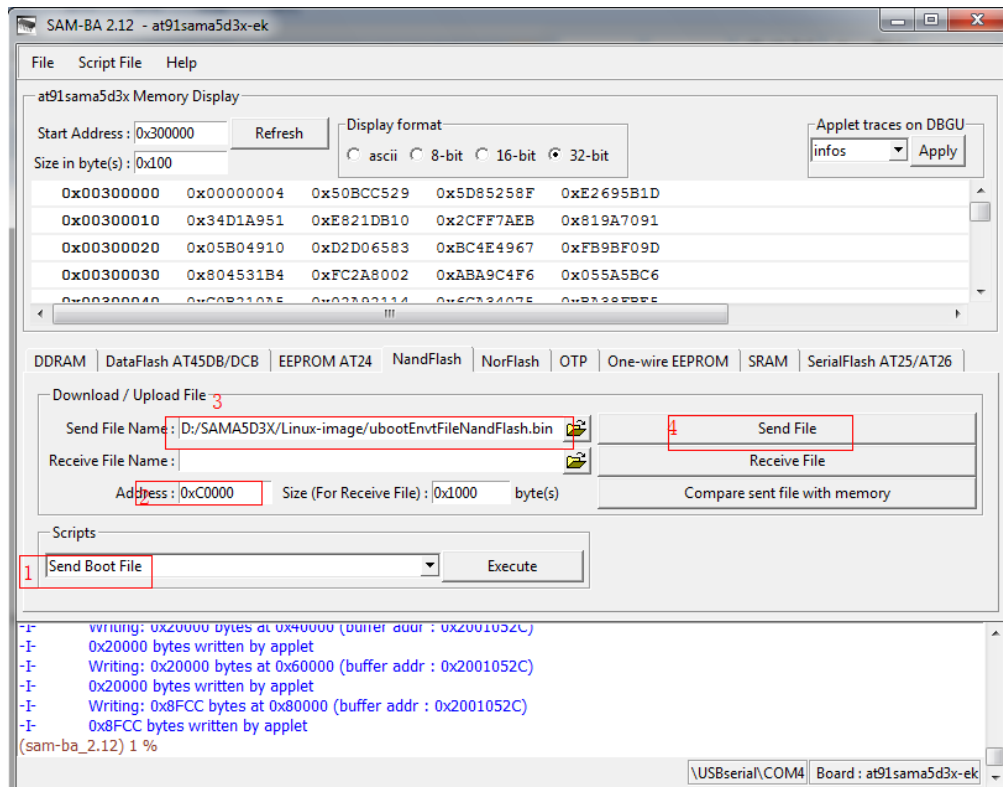

Figure 3-13
- ⑥ Download [ubootEnvtFileNand-Flash. bin] (this file generated by sam-ba when programming) to 0x000C 0000. Refer to figure 3-13: